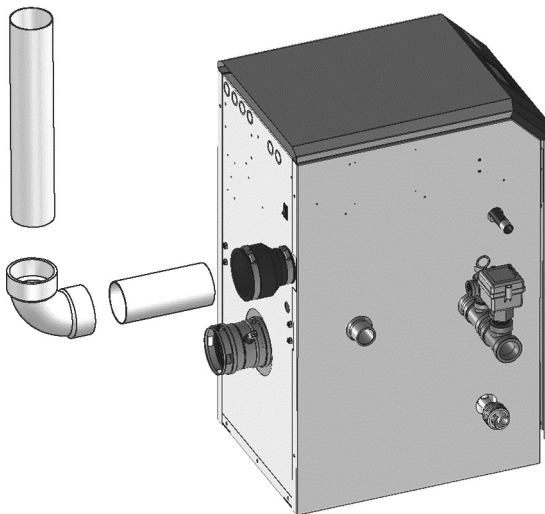

Figure 15. Near Water Heater Air Piping Models 150-200
1. Combustion Air Intake Connector (Figures 15 and 16) - Used to provide combustion air directly to the unit from outdoors. A fitting is provided on the unit for final connection. Combustion air piping must be supported per guidelines listed in the National Mechanical Code, Section 305, Table 305.4 or as local codes dictate.